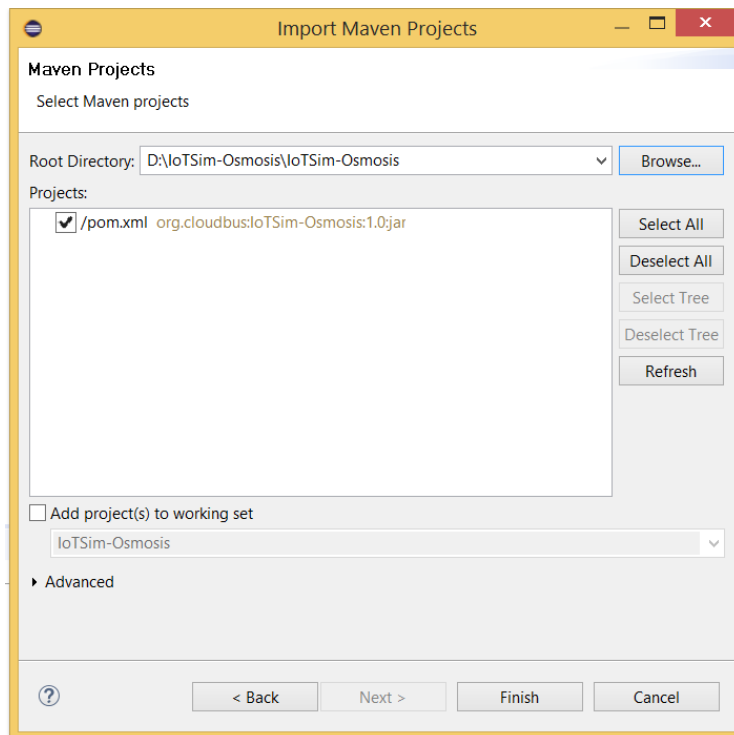

Figure 2.4
**Step 4:** Select the folder corresponding to IoTSim-Osmosis project. Next, click on Finish (see Figure 2.4)